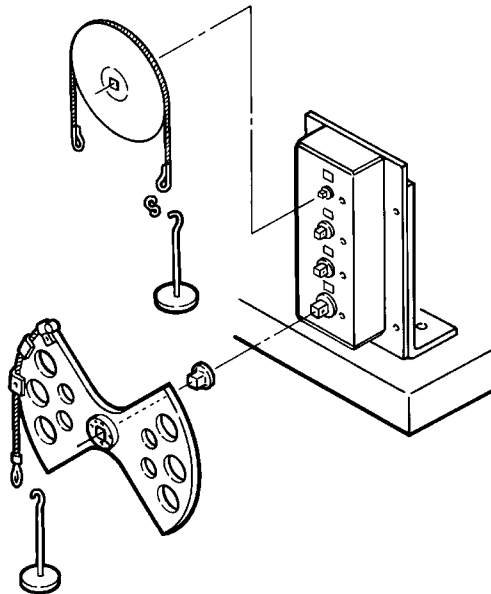

Figure 5-3: 4-in-1 Transducer Mounting Detail
- Sturdy table using a right angle bracket. Refer to *Figure 5-3*.